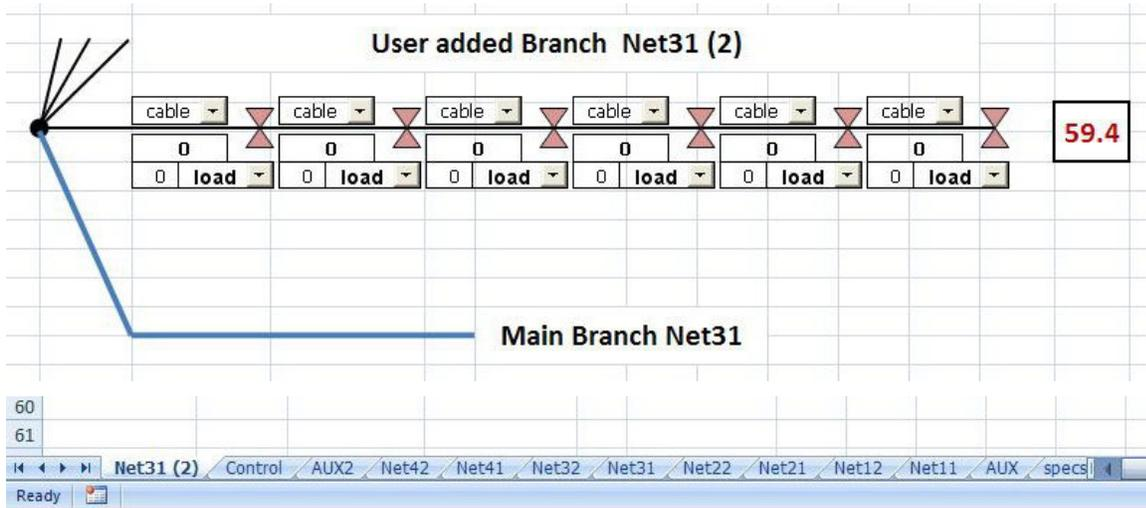

Fig.8 Added Worksheet
The new Worksheet Nett11(2) is automatically created and activated so that you may set data for the new branch. If no data is set the Network Model will be handled as if no branch has been added. After setting data return to the Main Window (Worksheet “Control”). See Fig.8